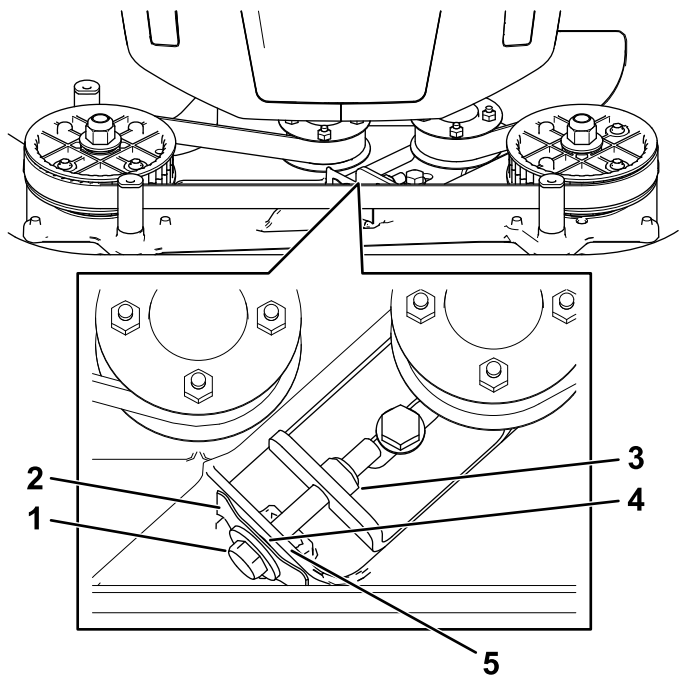

Figure 25
**Note:** If there is a visible gap between the gauge and the spring, tighten the adjusting bolt and the nut until the paper barely slides freely in and out of the gap (Figure 25).